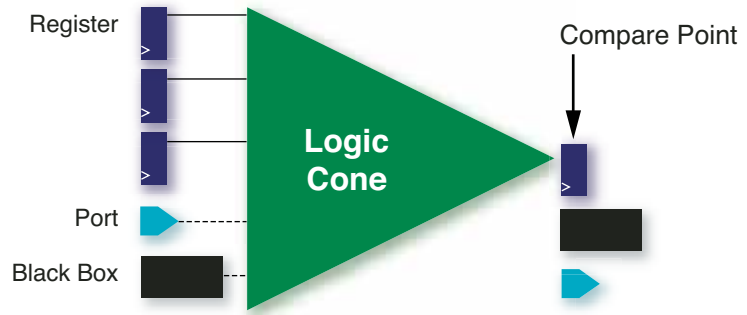

Figure 1 – Logic cone with compare point
1. Read: the EC tool reads RTL descriptions or netlists for the reference and implementation designs and segments the logic in each design into smaller components called logic cones (Figure 1). Logic cones are simply small groups of logic bordered by registers, ports, and black boxes. The end points for each logic cone are known as compare points.